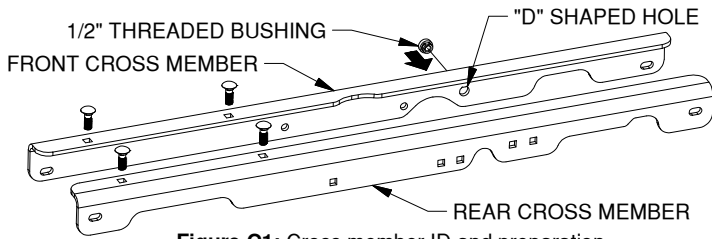

Figure C1: Cross member ID and preparation.
- 1. Prepare the cross members.** Identify the hitch cross members. Place a 1/2" x 1-1/2" carriage bolt into the two top holes on each cross member. Locate the "D" shaped hole in the front cross member and insert a 1/2" threaded bushing into the outside of the hole, as shown in Figure C1.